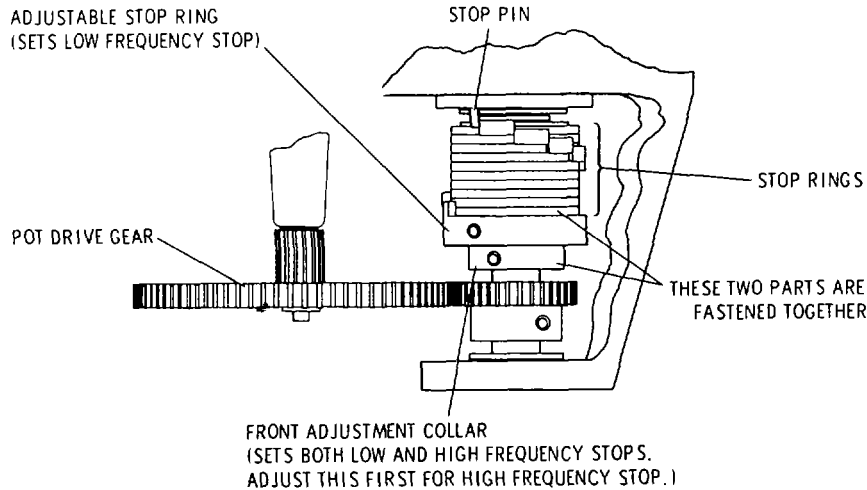

Figure 5-11. Location of RF Oscillator Stop Adjustments.
5. Tune FREQUENCY TUNE fully ccw. Compare the position of the stop ring teeth with Figure 5-11.